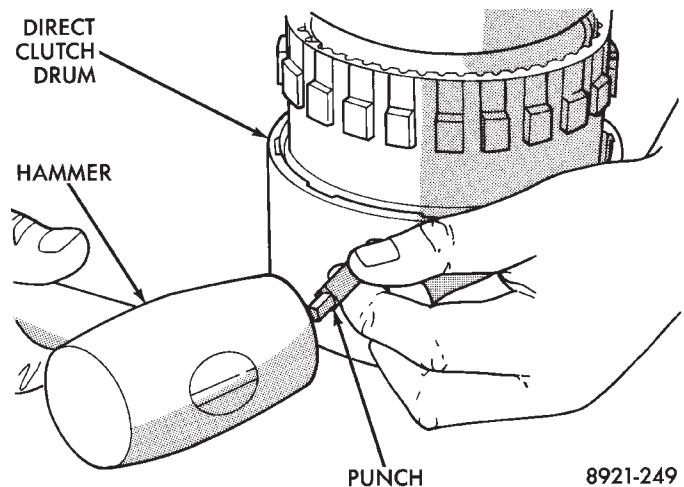

Fig. 27 Marking Direct Clutch Drum And Annulus Gear For Assembly Alignment
(6) Mark position of annulus gear and direct clutch drum for assembly alignment reference (Fig. 27). Use small center punch or scriber to make alignment marks.